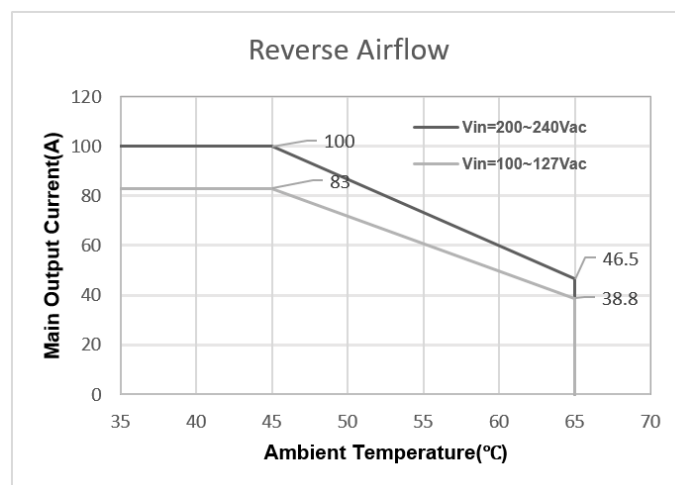

Figure 10 Iout derating with temperature (Reverse airflow)
2. Refer to figure 10 for reverse airflow lout derating with temperature